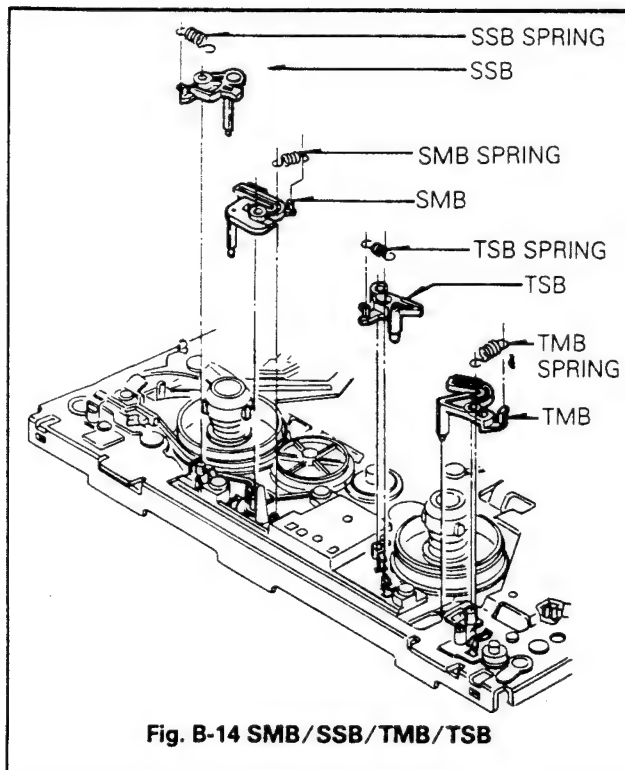

Fig. B-14 SMB/SSB/TMB/TSB
- 1) Remove the TMB(Fig. B-14)